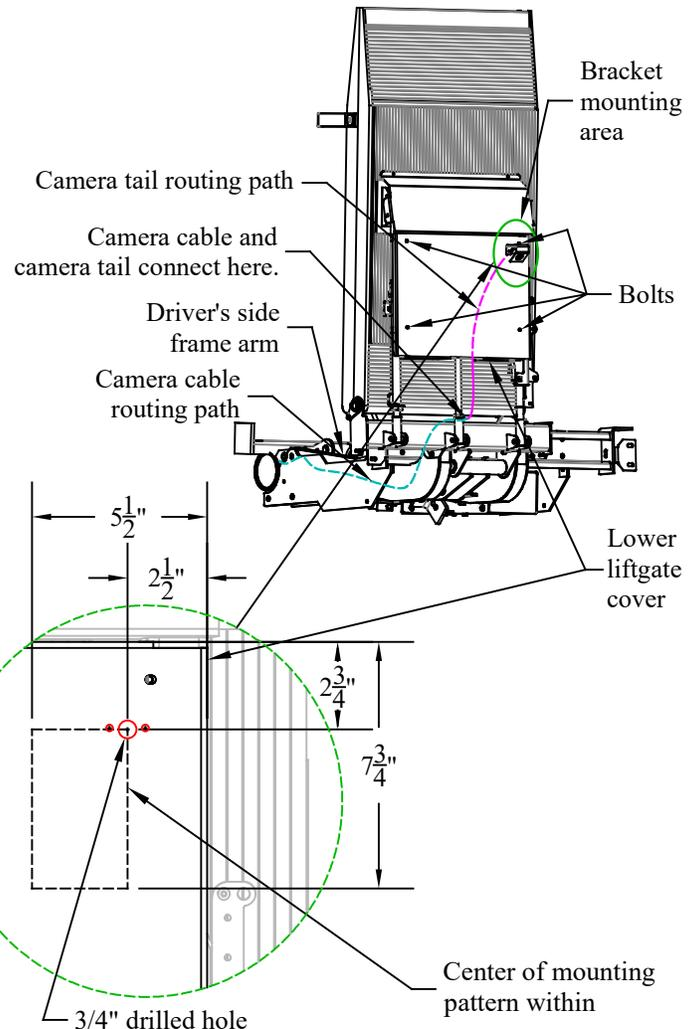
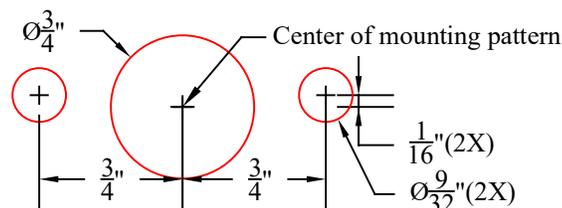
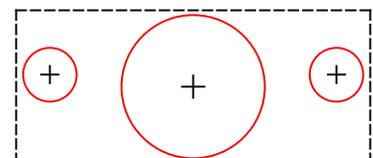

Figure 3: Bracket mounting area.
Figure 4: Mounting hole pattern and dimensions.
Figure 7: Full sized drill template.
4. **Remove** the four bolts securing the lower liftgate cover (figure 3) with a 3/8" socket.
6. **Use** the provided dimensions (Figure 4) or template. (Figure 7) **Drill** three holes within the suggested bracket mounting area in the lower liftgate cover. (Figure 3)